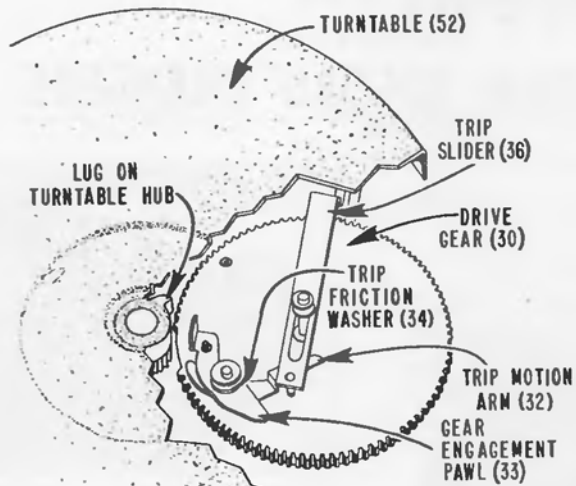

Figure 2A. Drive Gear Position Out of Change Cycle.
This changer employs a velocity trip, which consists primarily of two parts: the trip motion arm (32), and the gear engagement pawl (33). These parts are mounted near the "dead spot" on the drive gear. See Figure 2A.
as lubriplate #110) should be placed between these parts. If this does not help, it may be necessary to replace the trip friction washer (34). See Figure 2A.